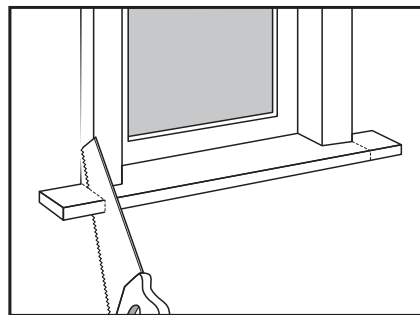

Figure 1.5
1.5 Windowsill extensions should be flush with the sides of the windows so the J-Channel fits flush against the window. (Figure 1.5)